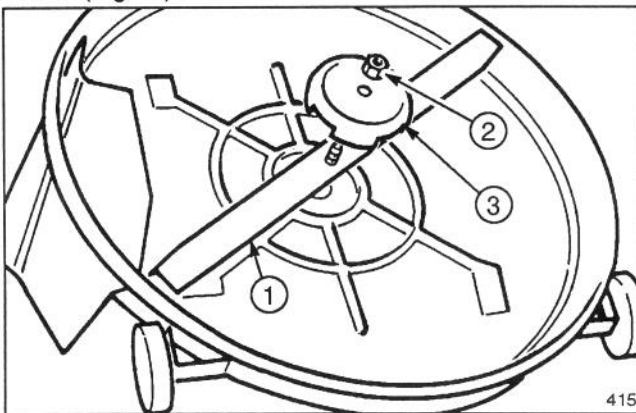
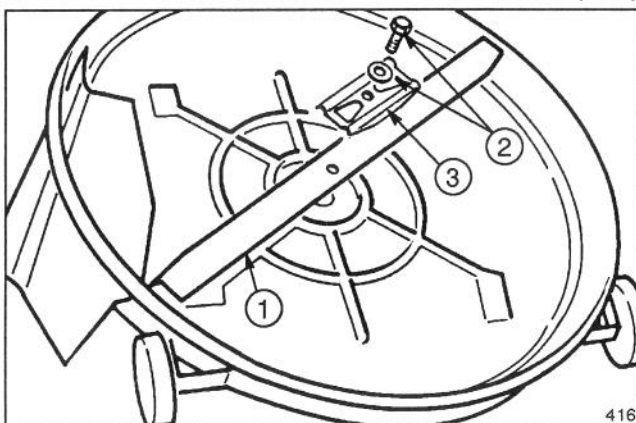

Figure 1
Figure 2
1. Use a rag or thickly padded glove to hold old blade. Depending on your unit's blade assembly, remove lock nut, anti-scalp cup, and blade (Fig. 1) or blade bolt, washer, blade stiffener, and blade (Fig. 2).